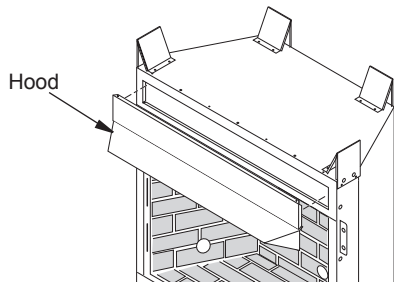

Figure 12 - Hood Placement (Model May Vary From Illustration)
1. For indoor models, attach hood and front panel assembly by snapping panel assembly into fireplace opening (see Figure 12).